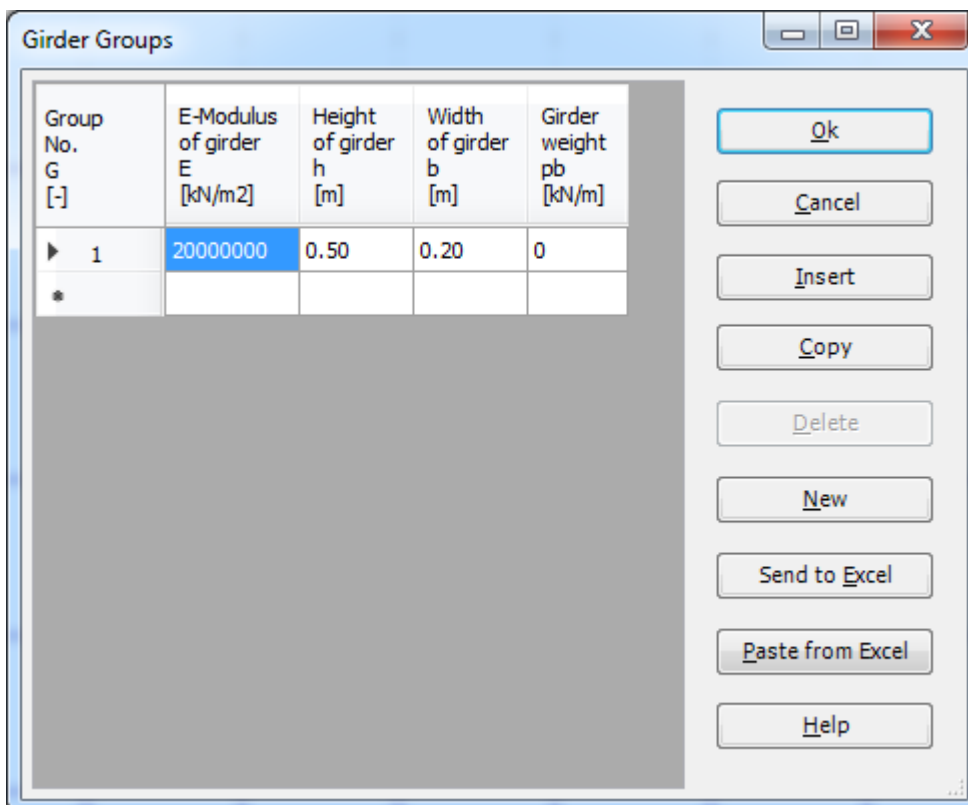

Figure 7.13 "Defining girder groups" list box
After clicking "OK" button in the "Cross section definition" option box, the following list box in Figure 7.13 appears.
- Enter the material properties of the girder, cross-section dimensions and the girder weight as indicated in Figure 7.13. This is done by entering the value in the corresponding cell and press "Enter" button